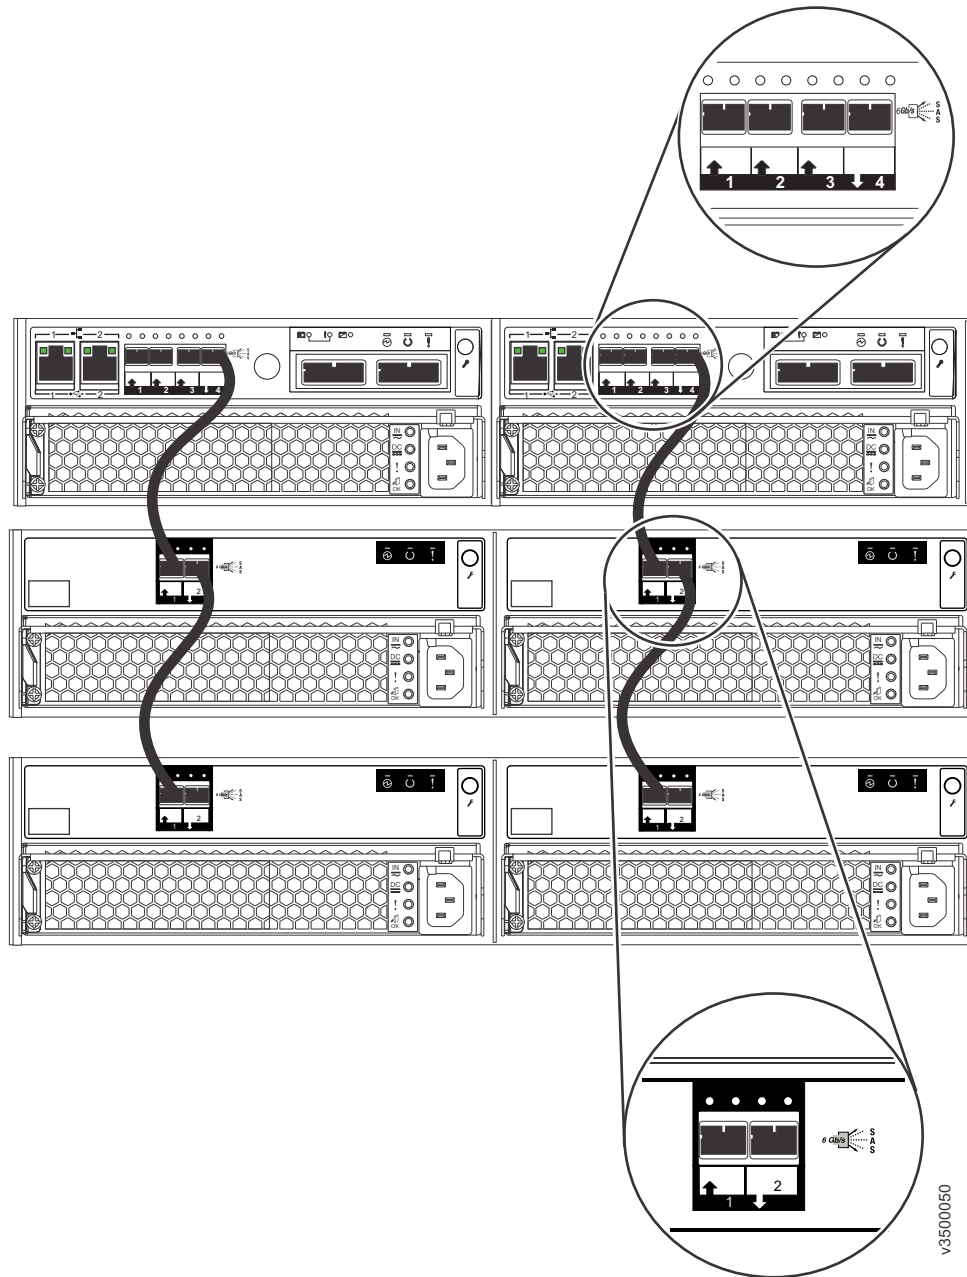

Figure 26. Connecting the SAS cables
1. Using the supplied SAS cables, connect the control enclosure to the first expansion enclosure as shown in Figure 26 on page 36.
2. If additional expansion enclosures are installed, connect each one to the previous expansion enclosure as shown in Figure 26.